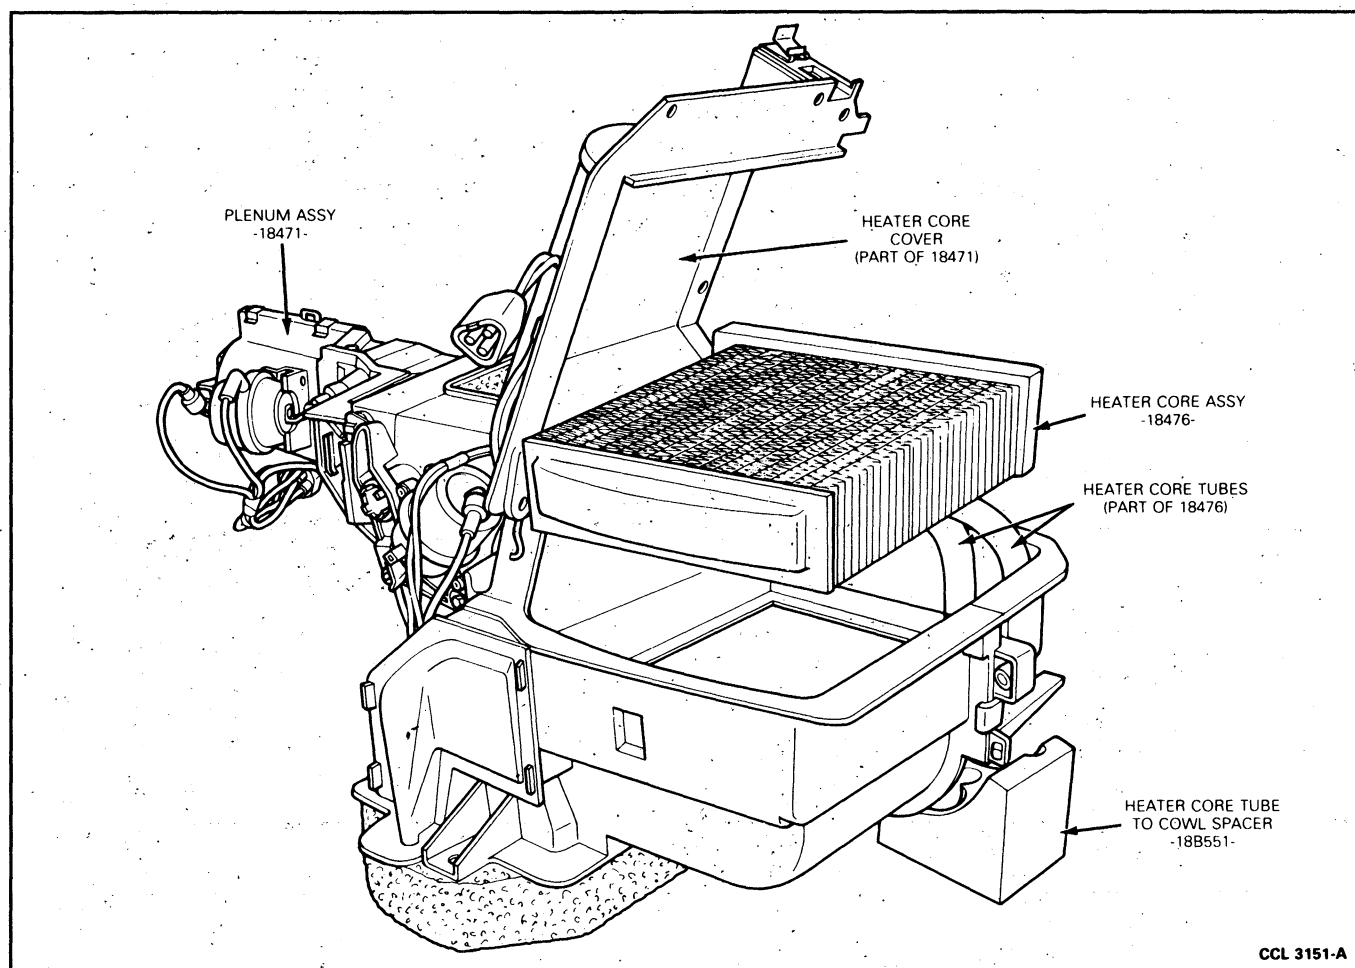

FIG. 18 Heater Core Access Cover and Core Removal
7. From inside the passenger compartment, remove the seven screws which attach the heater core access cover to the plenum (Fig. 18).